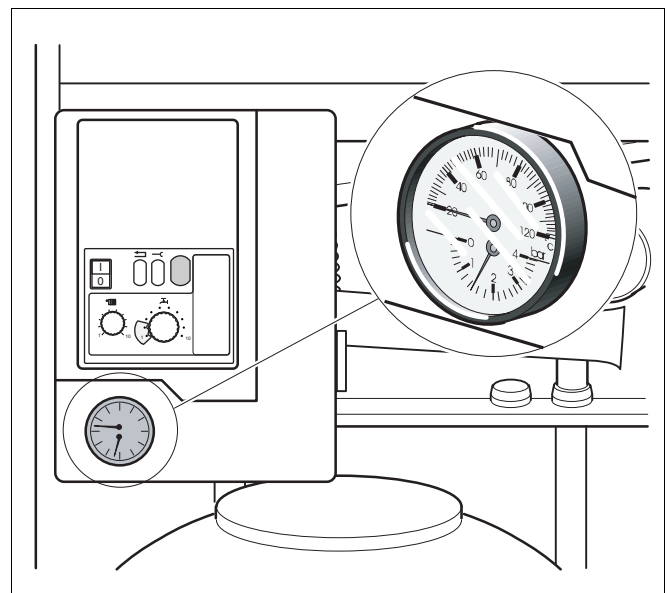

fig. 4 Pressure display
- Fill the system to a pressure of 1.0 to 1.2 bar (fig. 4). Max. water pressure is 2.0 bar.